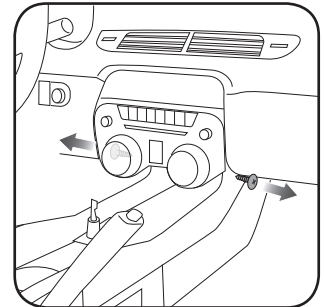

Fig. 1.6
6. Remove (2) Philips screws at the front of the center console (one on each side, near the junction of the radio/climate area). (Fig. 1.6)